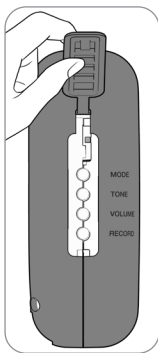

Fig. 4
1. Lift the programming control protective cover (Fig. 4).
1. Lift the programming control protective cover (Fig. 4). Ensure Fall Monitor is on.